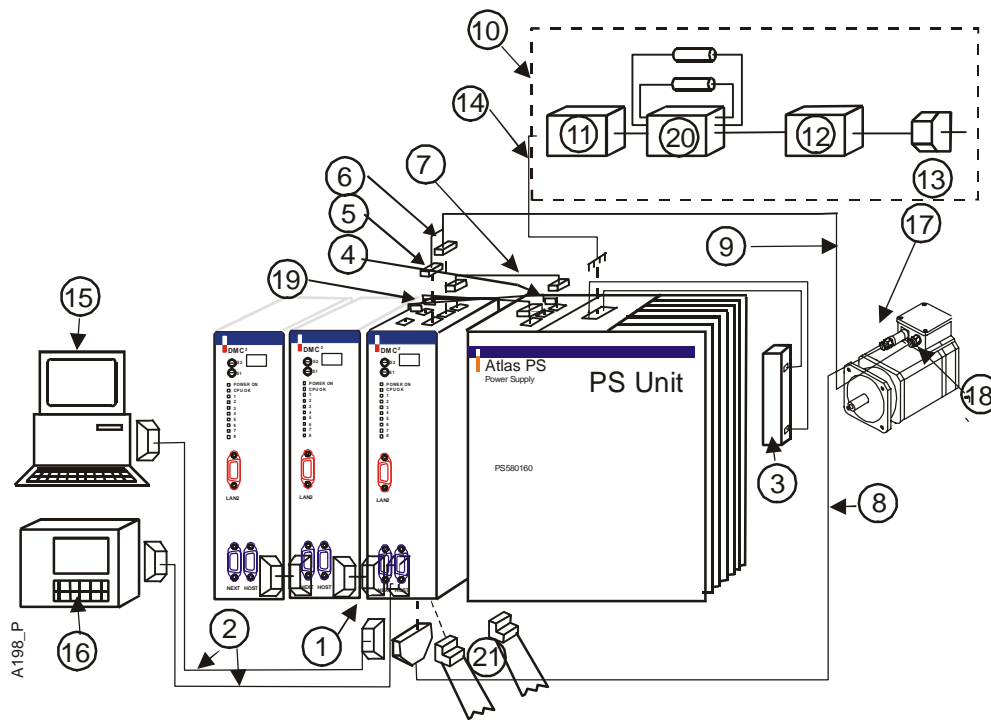

Figure 8. Example of PDS with DC supplied DMC² unit(s) driven by stand-alone PS (power supply) unit.
- A stand-alone PS (power supply) unit supplying one or more DC supplied DMC² unit(s) with a DC bus interface. See Figure 8.